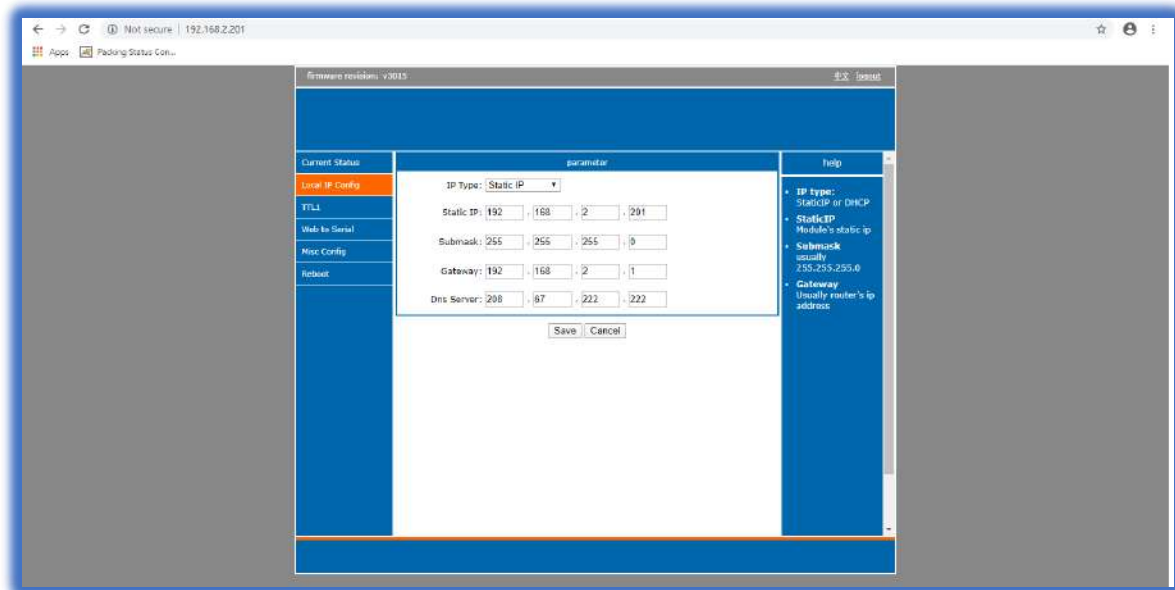

Figure 4. Local IP Configuration
- If the IP address is known, then open it on the web browser and set the parameters as described below- (**Figure 4, 5, 6, 7**).